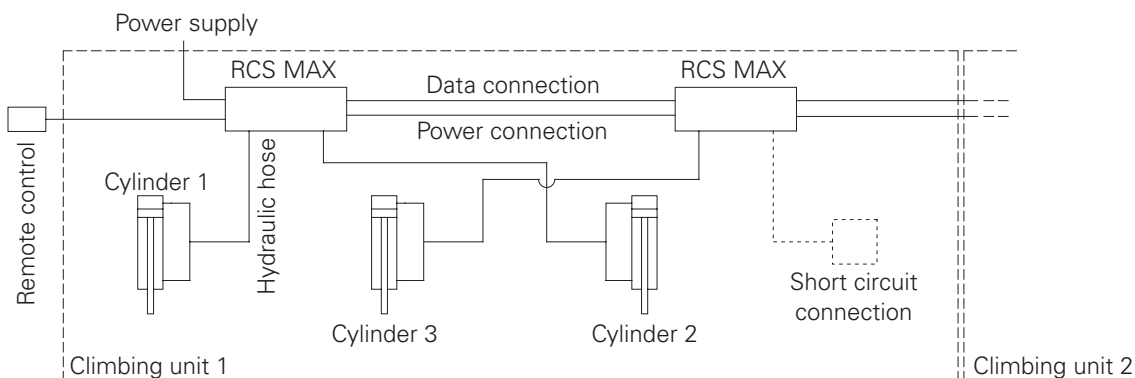

Fig. C1.04
- Three cylinders per climbing unit are in use. (Fig. C1.04)